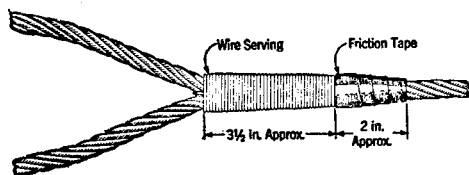

Fig. 12
**6.08** Leaving the last 1/2 inch of tails unserved helps keep the serving wire from slipping off the tails and loosening when the line is under tension. It is advisable to tape over the unserved portion of the tails and the final serving on the solid rope only. This protects the workmen from the tail strands, gives a fairly smooth taper at this point and still leaves the majority of the serving exposed for observation. (See Fig. 12.)